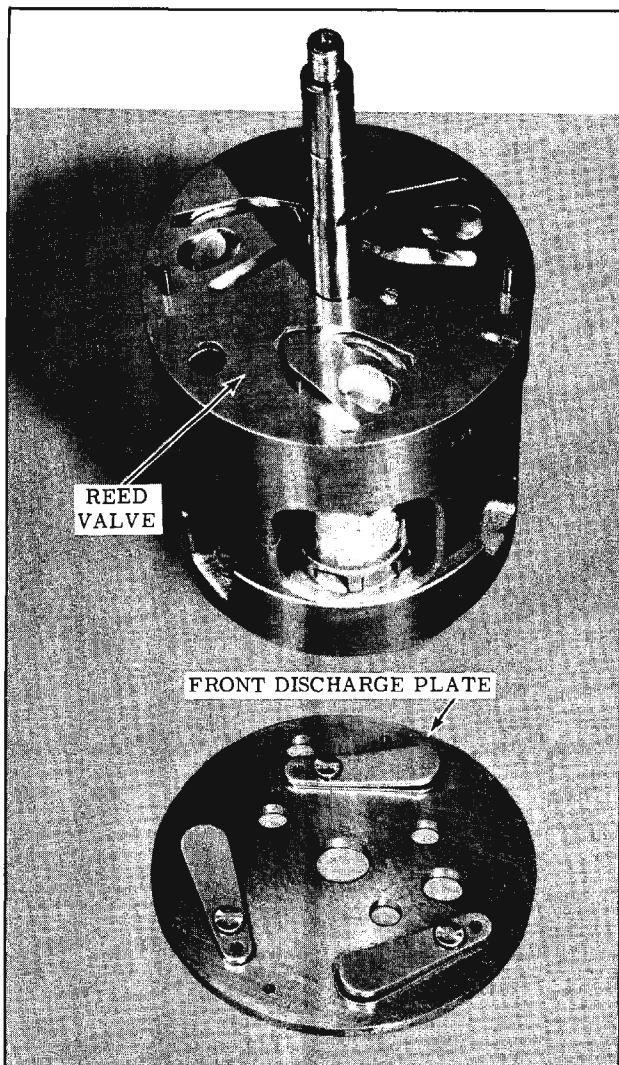

Fig. 15-68 Front Head Discharge Plate and Reed Valve
3. Remove the front discharge valve plate and reed valve assembly. Separate discharge plate from reed valve and inspect. (Fig. 15-68)